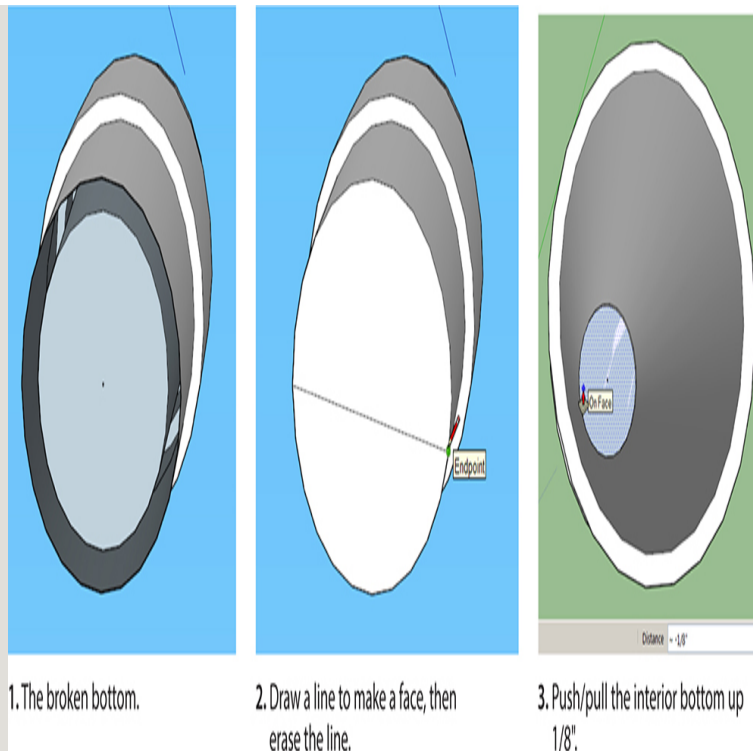

Figure 3-109 Fix the bottom and then push/pull it up.
6. Fix the bottom (Figure 3-109). Orbit under the cup. The bottom probably will look like Figure 3-109's first graphic. Draw a line from one end of the circle to the other to form a face, and then erase the line. Orbit inside the cup, and push/pull the bottom up $1/8$ ".